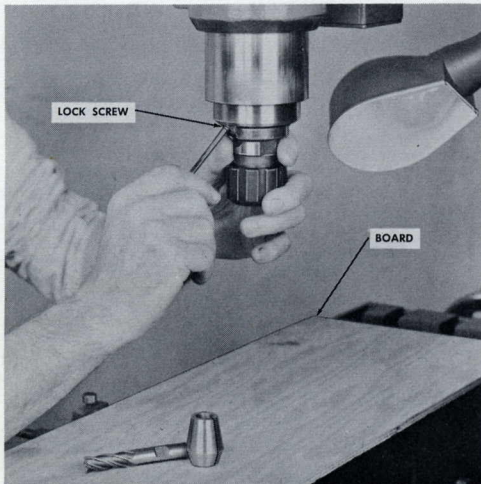

Fig. 36. Mounting collet holder in spindle.
It is a good plan to place a board over the milling machine table as shown in Fig. 36 when mounting tools or accessories in the spindle. The board will protect the table and tools from damage in case tools are accidentally dropped. It also provides a handy place to lay tools.
- A. Unscrew the two lock screws (Fig. 36) until they no longer project inside the spindle hole.